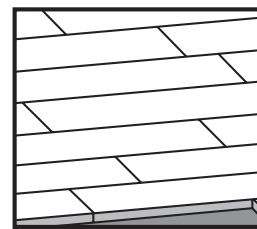

FIGURE 1.1 (CORRECT)
**STEP 8:** Avoid what our industry calls “clusters” by staggering the end joints by at least twice the plank’s width. Example: using a 3 ¼” wide plank would put the next row’s end joint no closer than 6 ½”. It will be impossible with some width do that. In this case, match the overall look. If available, the use of a Brad nailer is ideal to speed up the above face and blind nailing procedure. Ensure that there is a nail approximately 1-2” away from both ends of the board. Refer to figure 1.1 and 1.2